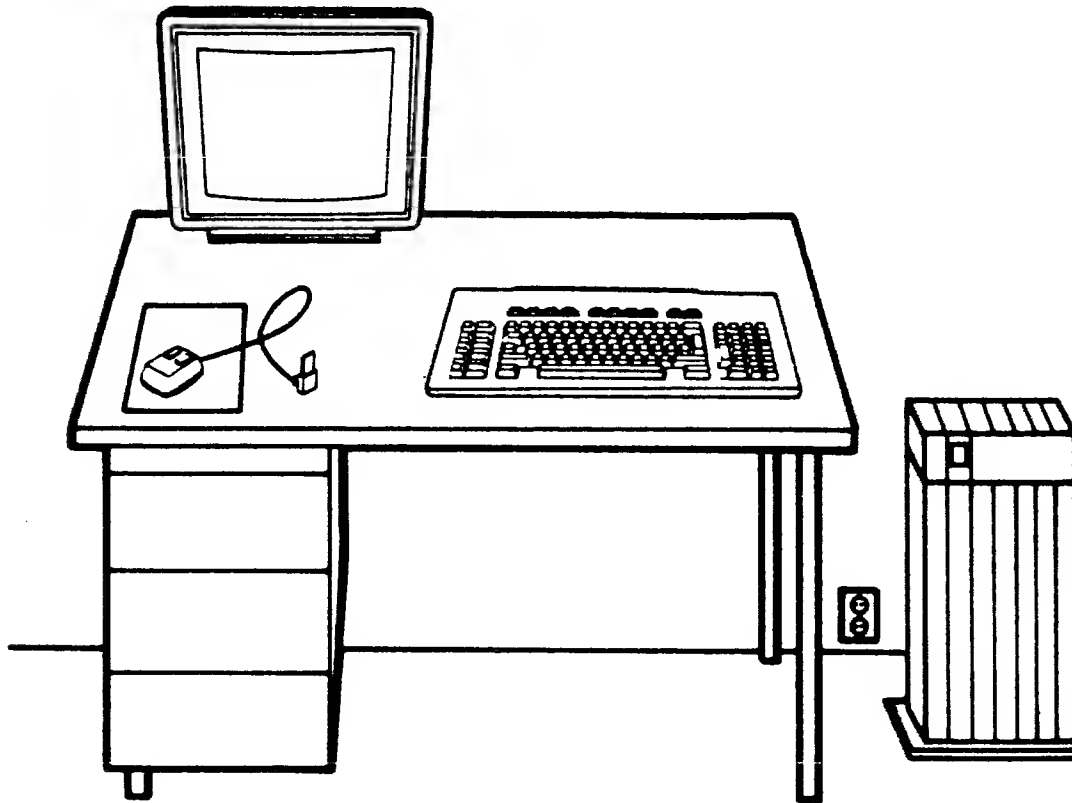

Figure 2-5. Positioning System Components
1. Place the display, keyboard, optical pointer, and mouse pads, on a tabletop, as shown in Figure 2-5.